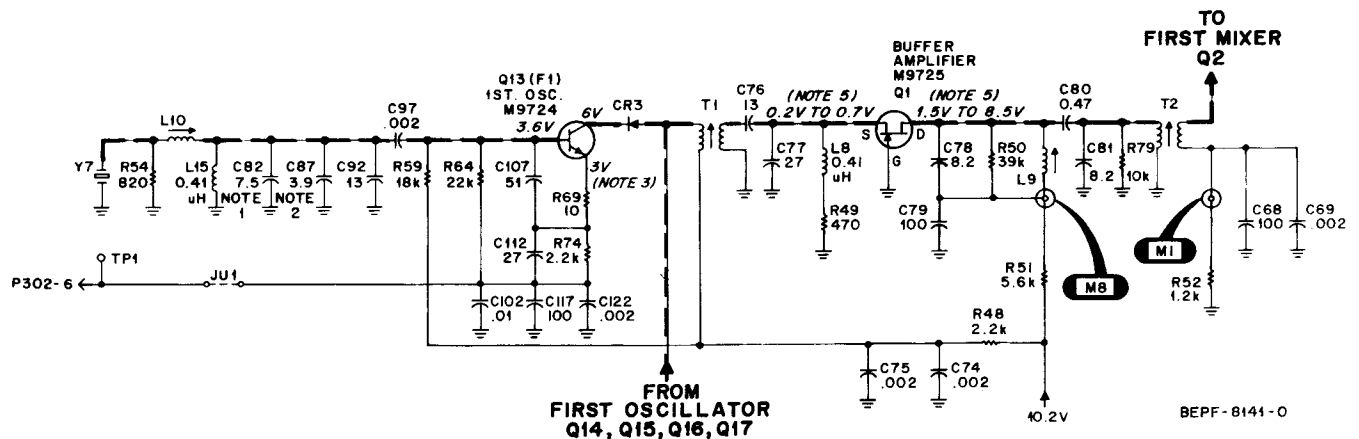

Figure 76. Typical First Oscillator and Buffer Amplifier Stages
(2) First Oscillator and Buffer Amplifier Stages (Refer to Figure 76)